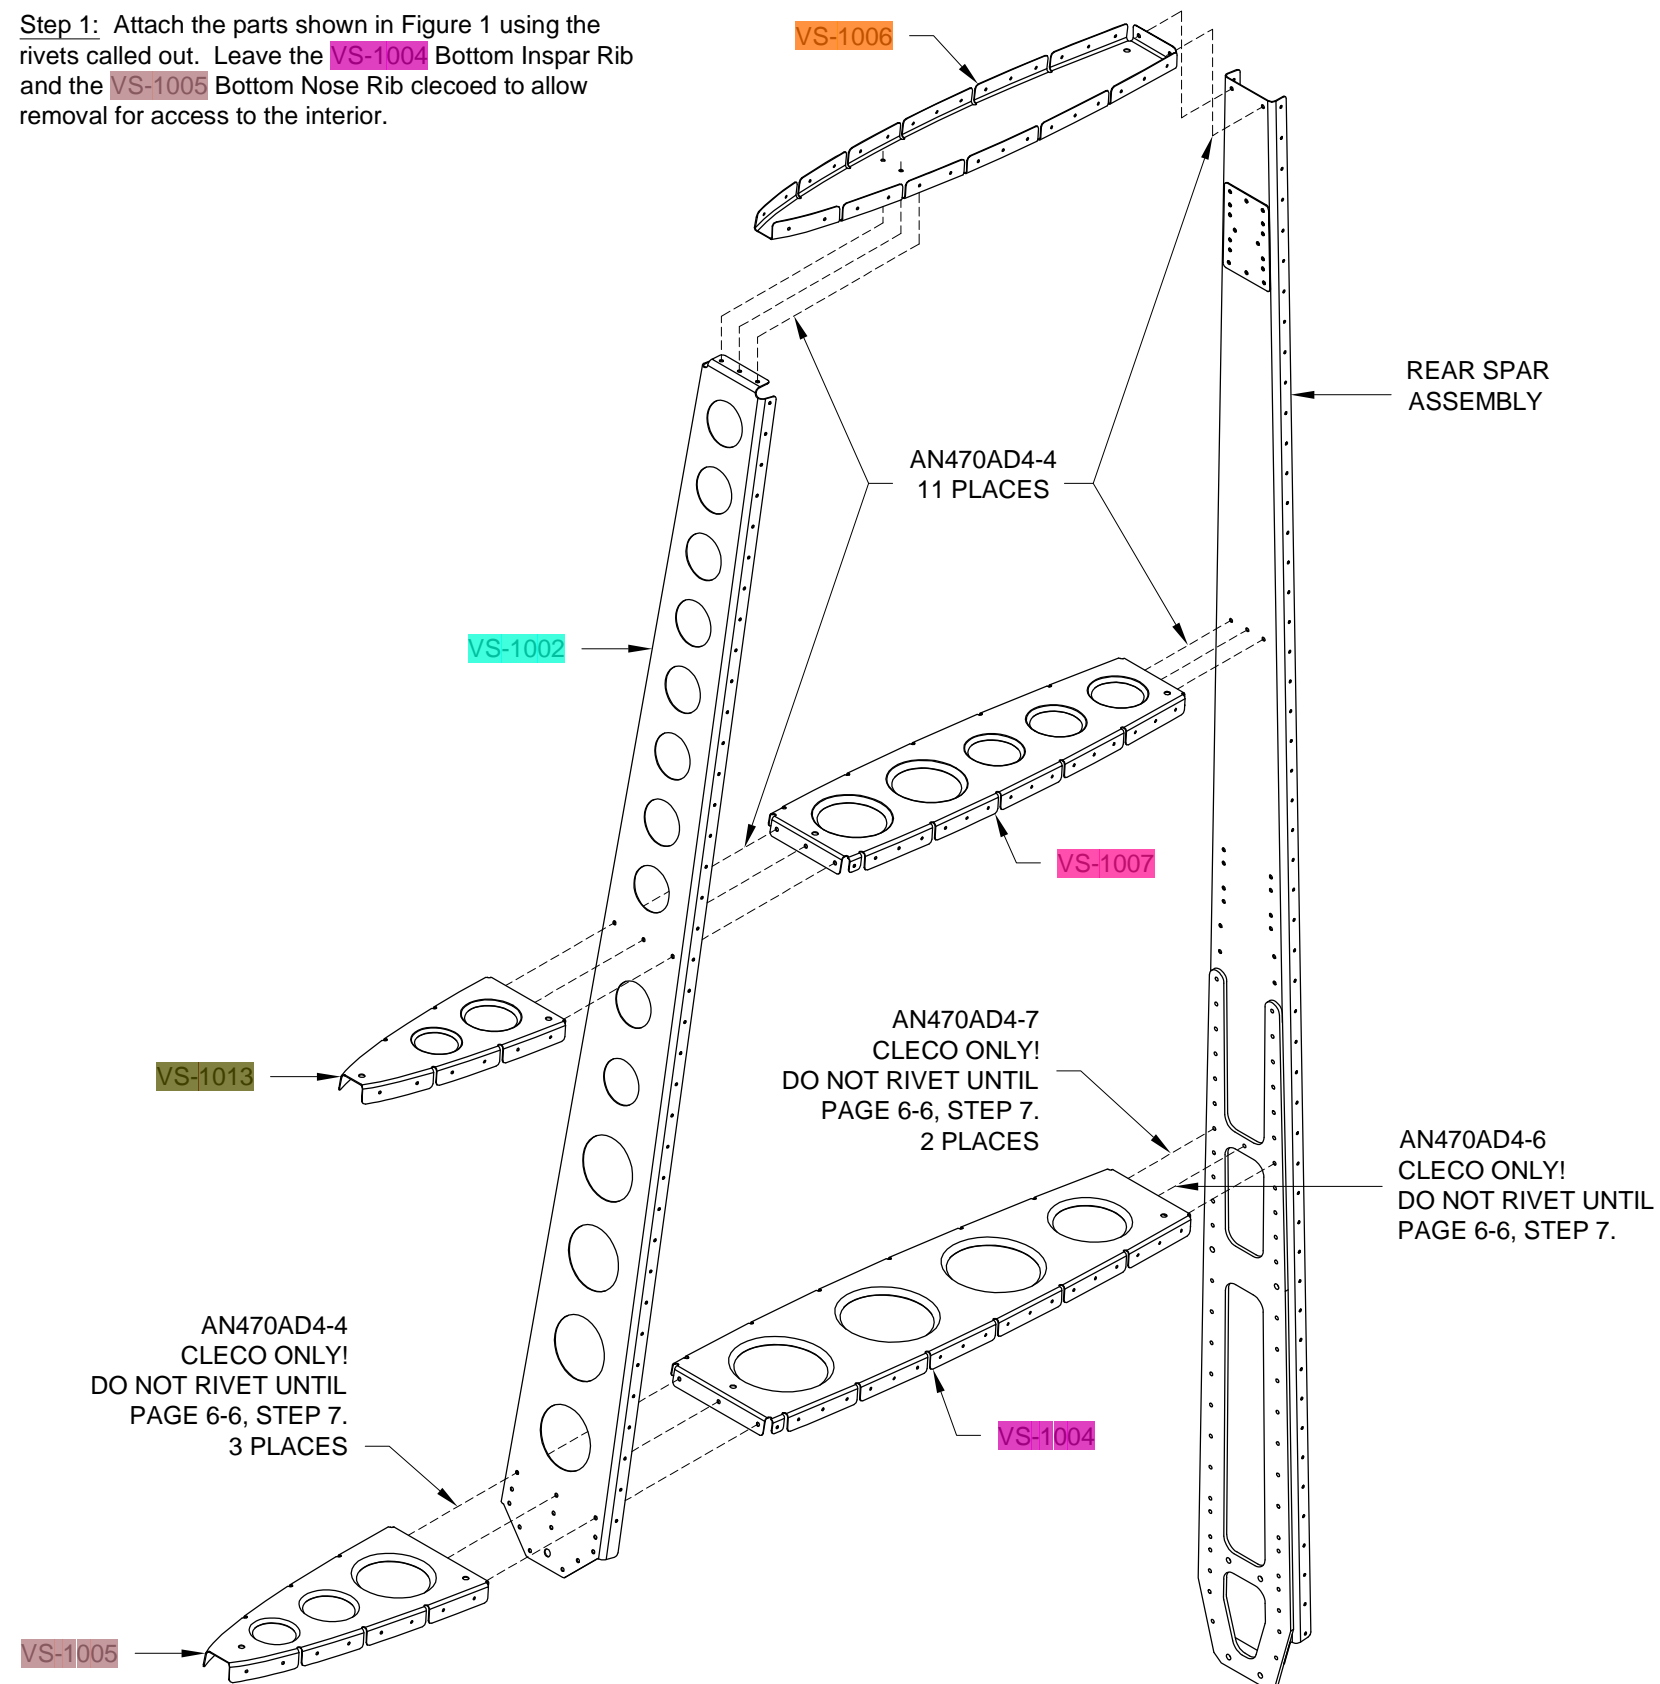

FIGURE 1: RIB RIVETS
Step 1: Attach the parts shown in Figure 1 using the rivets called out. Leave the VS-1004 Bottom Inspar Rib and the VS-1005 Bottom Nose Rib clecoed to allow removal for access to the interior.